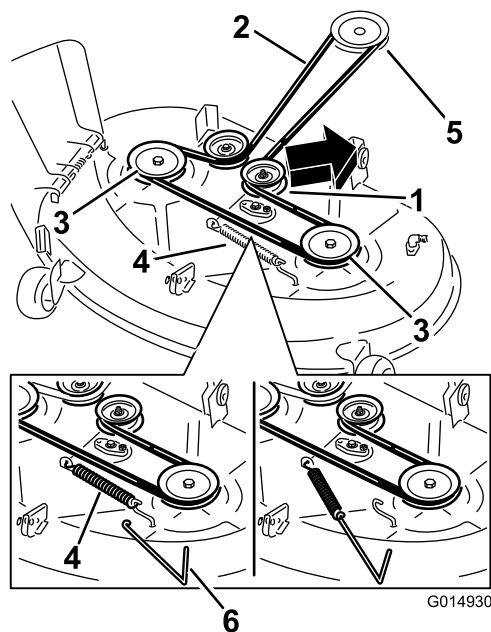
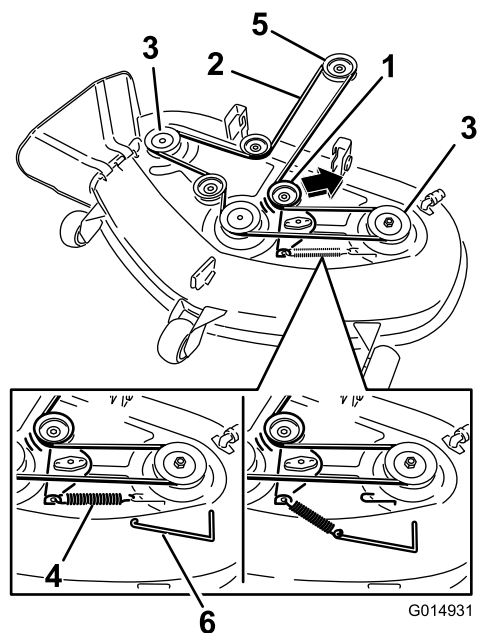

Figure 57
Figure 58
6. Using a spring-removal tool, (Toro Part No. 92-5771), remove the idler spring from the deck hook to remove tension on the idler pulley, and roll the belt off the pulleys (Figure 57 and Figure 58).
7. Route the new belt around the engine pulley and mower pulleys (Figure 58).
8. Using a spring-removal tool, install the idler spring over the deck hook, and place tension on the idler pulley and mower belt (Figure 57 and Figure 58).